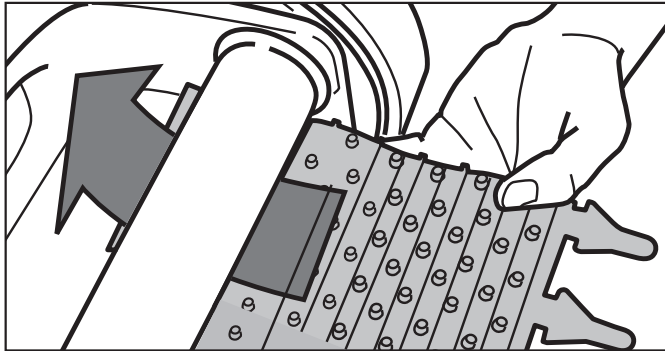

Figure 18. Position the New Brush on Roller
3. Position the new brush underneath the roller with the bristles facing downwards (see Figure 18).